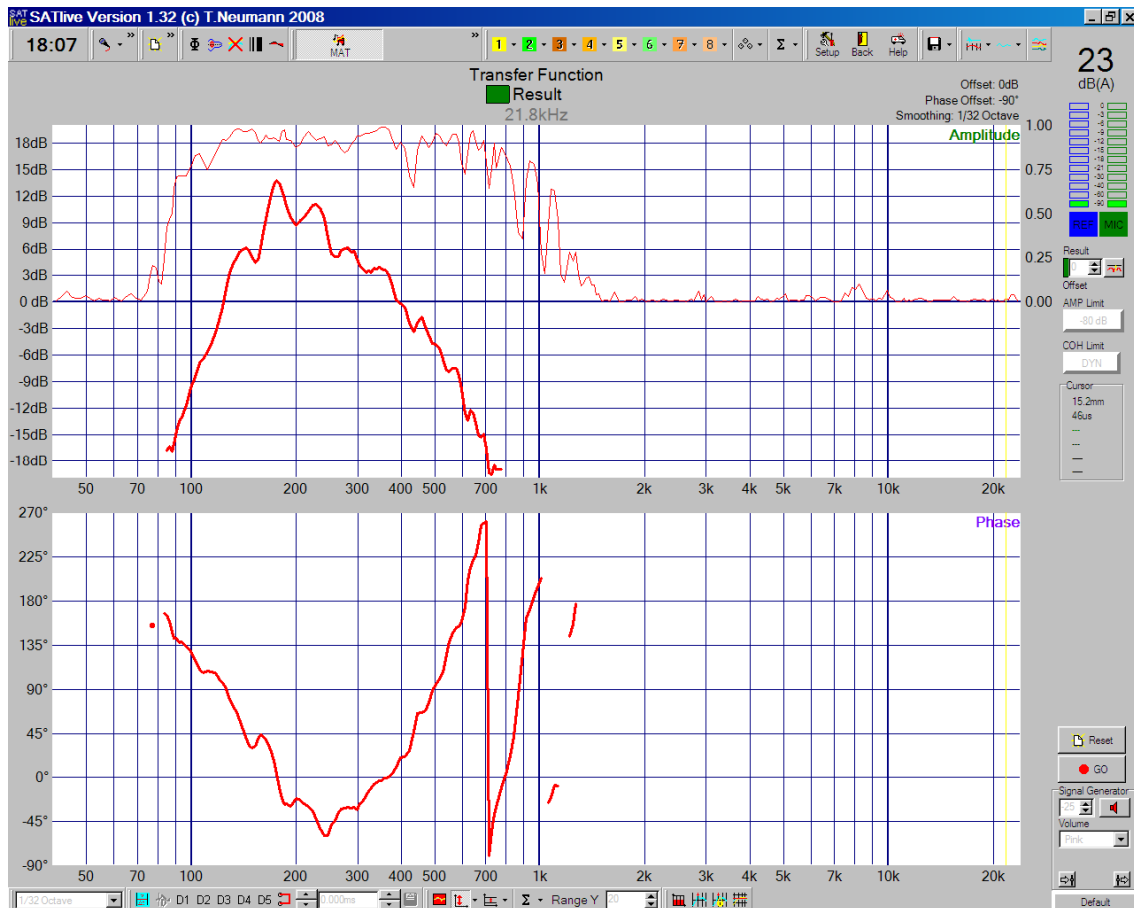

Fig. 3. Magnitude and phase frequency response for the front subwoofer at the position where the cancellation is required.
3) Measure the magnitude frequency response for the front enclosure before doing phase adjustments. This way we'll be able to compare the initial situation with the cardioid configuration. The measurement can be seen in Figure 3. The subwoofer's phase trace will always be shaped like an upper case U letter, or a smile.